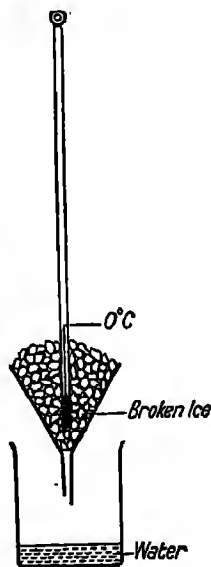

FIG. 222. To test the lower fixed point of a thermometer.
**Expt. 265. To test the lower fixed point of a thermometer.** Break up some pure ice into small pieces and place them in a filter funnel (Fig. 222). Embed the bulb of a thermometer in the ice and pour some distilled water over the ice. Watch the fall of the mercury in the thermometer. If the thermometer is a good one the mercury will fall to  $0^{\circ}$  and then stay there.